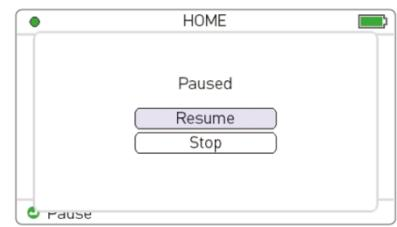

Figure 29. Paused
1. To pause therapy, press . The message "paused" is shown, *see Figure 29*.